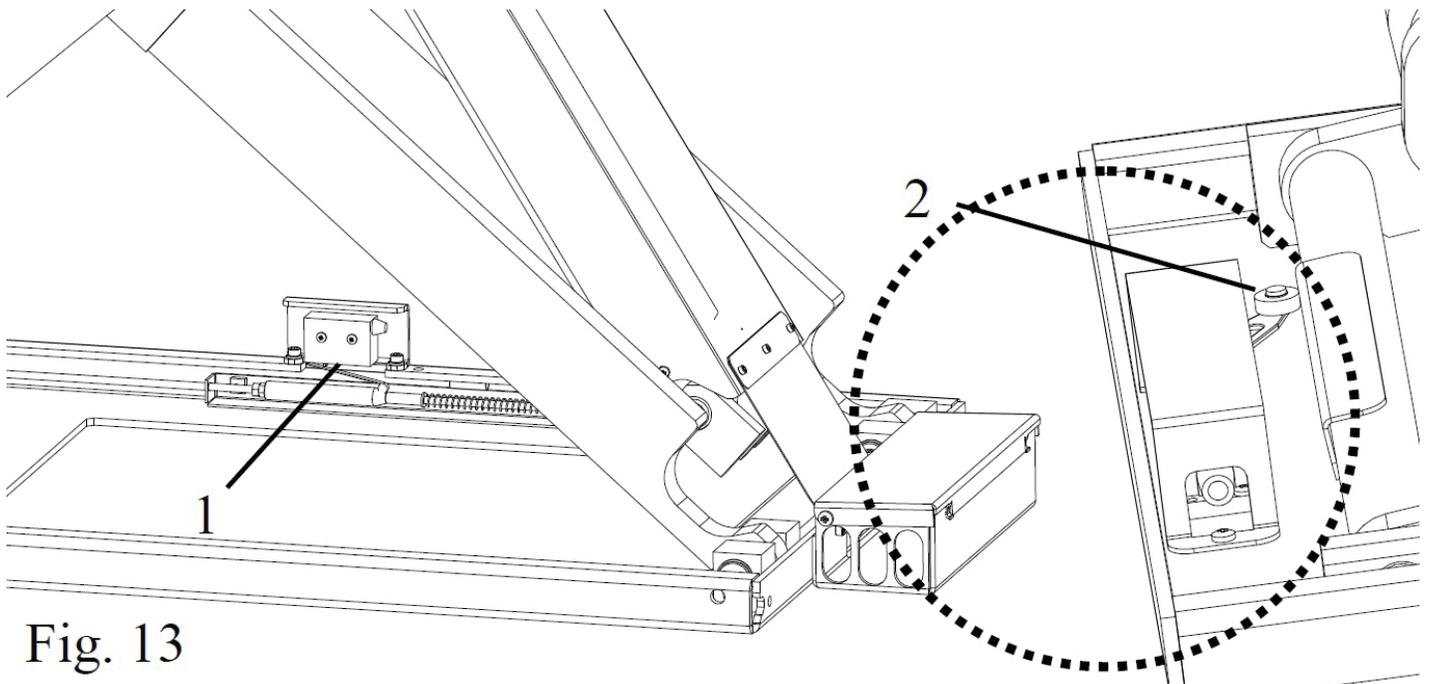

Fig. 13
7.9 Adjustment Of Limit Switches (Ref. Fig. 13)